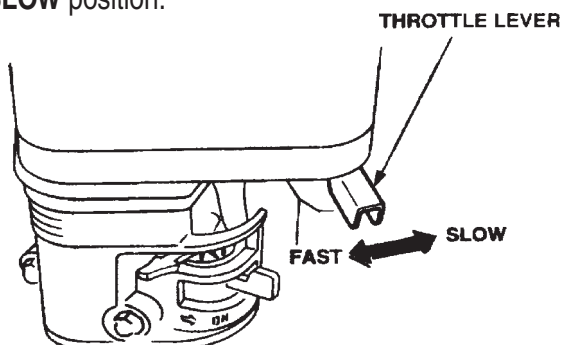

Figure 7. Throttle Lever
2. Place the engine **throttle lever** (Figure 7) to the **IDLE** or **SLOW** position.